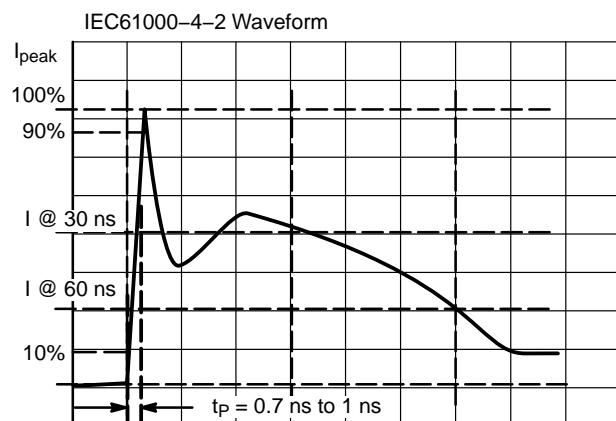

Figure 9. IEC61000-4-2 Spec
1. For test procedure see Figures 9 and 10